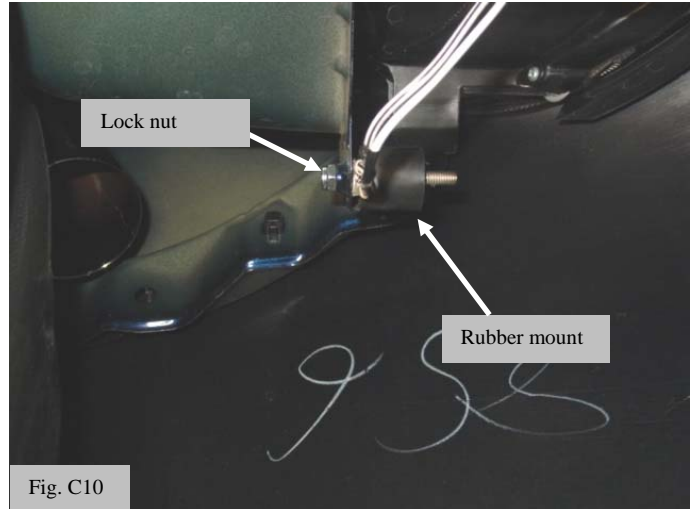

Fig. C10
- i. Make sure the ground wire is installed between the rubber mount and the vehicle, with the star washer between the ground wire and the rubber mount. The correct order is vehicle, ground wire, star washer and rubber mount. (Fig. C10)
- ii. Install the 6mm lock nut as shown. (Fig. C10)